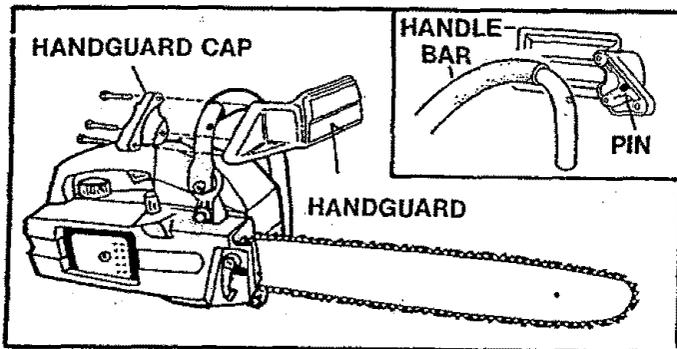

Figure 1
1. Align the Handguard and Handguard Cap around the handlebar as shown in Figure 1.
2. Fit the mounting pin on the Handguard into the hole in the handlebar. Figure 1, (insert).